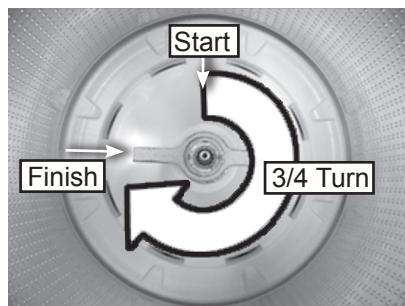

Figure 9
11. Tighten spanner nut $\frac{3}{4}$ of a turn by lightly tapping spanner wrench with a hammer. See Figure 9.